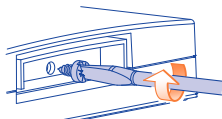

Fig. 1
a locking screw that is mounted on the inside of the front of the housing (Fig.1). This prevents damage to the protection degree due to unintentional opening or negligent handling.
- If necessary, put the locking screw (Fig.1).